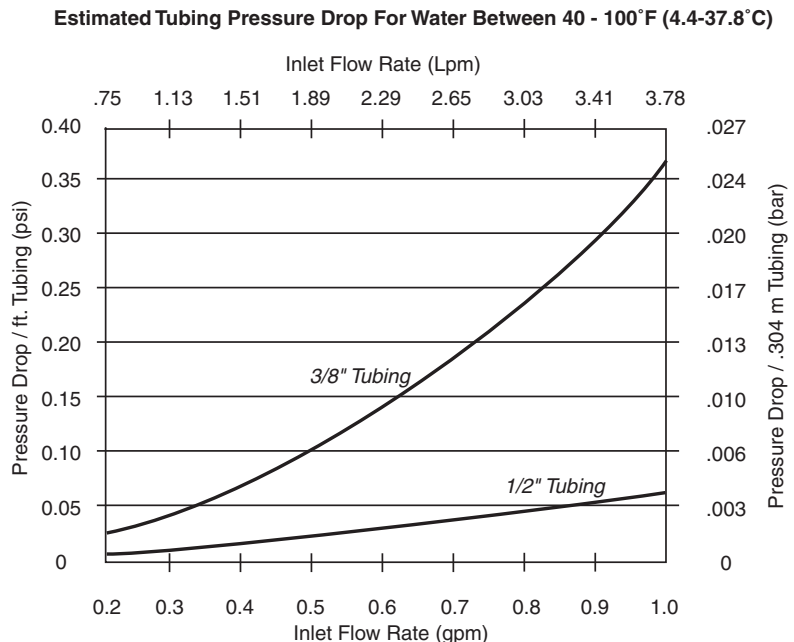

Figure 4
2. Using the estimated flow rate found in step 1 above, find the pressure drop through the tubing with Figure 4.
**A:** Tubing pressure drop for this installation will be 0.11 psi/ft of 3/8-inch tubing or 0.02 psi/ft of 1/2-inch tubing according to Figure 4. Because 20 ft of tubing will be used, the total tubing pressure drop is: